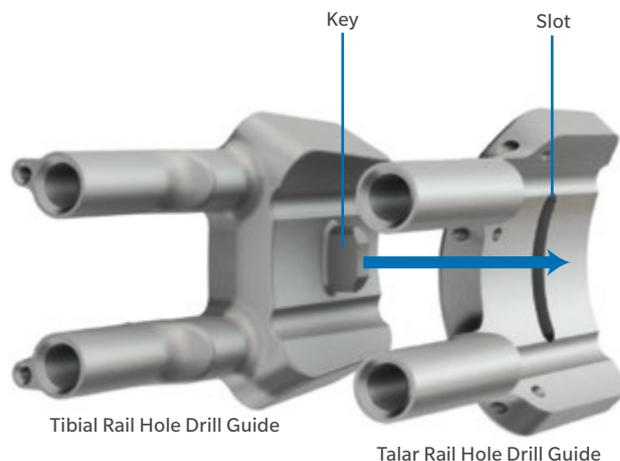

Fig. 65
- Link drill guides together using key/slot features (Fig. 65).